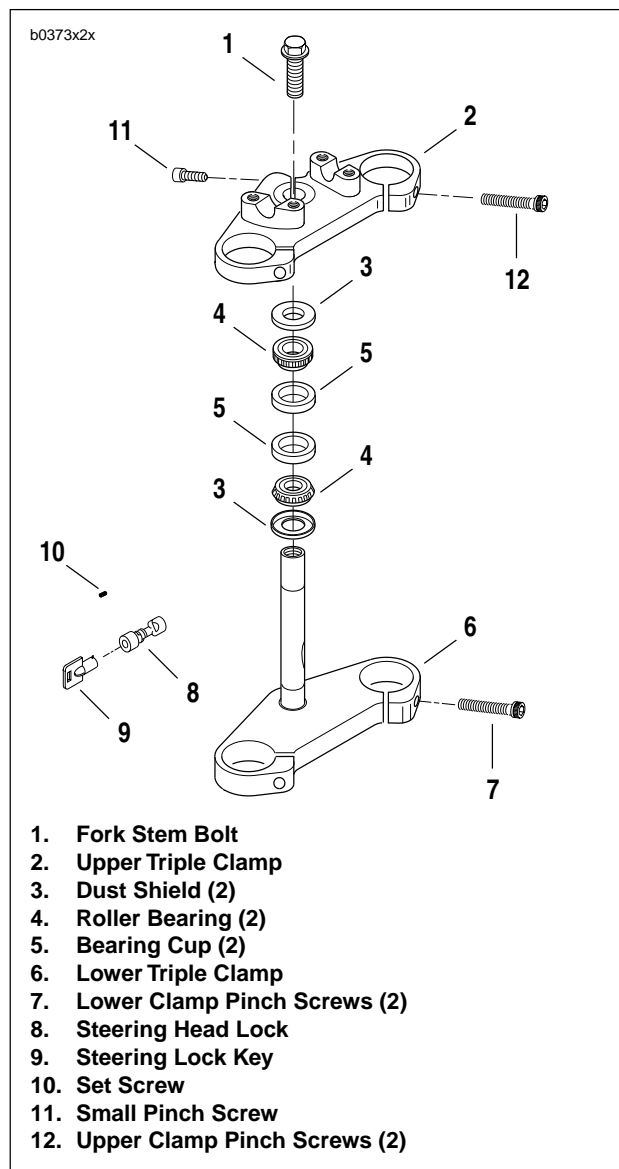

Figure 2-56. Fork Stem
3. See Figure 2-56. Remove all upper triple clamp screws (7, 11), fork stem bolt (1) and upper triple clamp (2).
4. Remove upper dust shield (3) and roller bearing (4).
- a. Remove two lower triple clamp screws (7). Pull the lower triple clamp (6) downward.
- d. Remove lower dust shield (3).
6. If replacement of bearing cups (5) is necessary, drive cups from steering head using STEERING HEAD BEARING RACE REMOVER (Part No. HD-39301A) and UNIVERSAL DRIVER HANDLE (Part No HD-33416).
1. See Figure 2-56. Clean the dust shields (3), bearing cups (5), fork stem and lower triple clamp (6) and frame with solvent.
2. Carefully inspect bearing races and assemblies for pitting, scoring, wear and other damage. Replace damaged bearings (4) as a set (3, 4 and 5).
3. Check the fork stem and lower triple clamp (6) for damage. Replace if necessary.
1. See Figure 2-56. If removed, install **new** bearing cups (5) into frame steering head using STEERING HEAD BEARING RACE INSTALLER (Part No. HD-39302).
2. Liberally coat the bearing cones (4) with grease using WHEEL BEARING PACKER TOOL (Part No. HD-33067). Work the grease into the rollers.
- a. Place lower bearing dust shield (3) over fork stem.
- c. Press bearing (4) with small end up onto fork stem and lower triple clamp (6). Use the pipe as a press-on tool.
4. Insert lower triple clamp (6) through the steering head. Install the upper bearing (4) with small end down and dust shield (3) onto fork stem.
5. Apply LOCTITE ANTI-SEIZE to fork stem bolt (1). Loosely install upper triple clamp (2) using fork stem bolt.
- a. Install fork stem bolt (1).